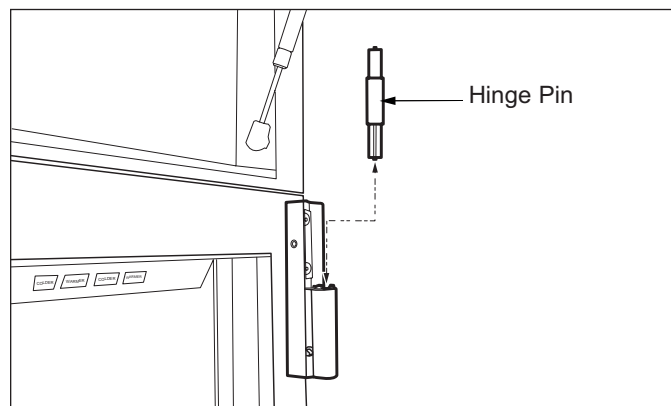

Figure 2-14. Hinge Pin Removal
3. Remove hinge pins (See Figure 2-14).